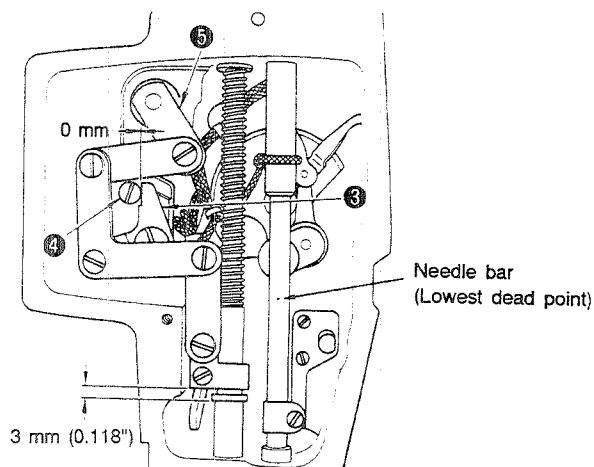

Fig. 5-20-8
- 4) When the intermediate presser is in the lowest position of its stroke, the clearance between the bottom face of the intermediate presser and the top face of the intermediate presser bar lower bushing is $3 (0.118") \pm 0.2 \text{ mm } (0.008")$. Additionally, positioning pin ④ keeps in contact with the top end of positioning link ③ while the intermediate presser is actuated. (Fig. 5-20-5, Fig. 5-20-8)
- 4) Bring the needle bar to its lowest dead point and loosen screw ⑥ in the intermediate presser rod arm (Fig. 5-20-7). Now, adjust the above-stated clearance by moving the intermediate presser oscillating shaft ⑤ with positioning link ③ pressed against positioning pin ④. (Fig. 5-20-8)